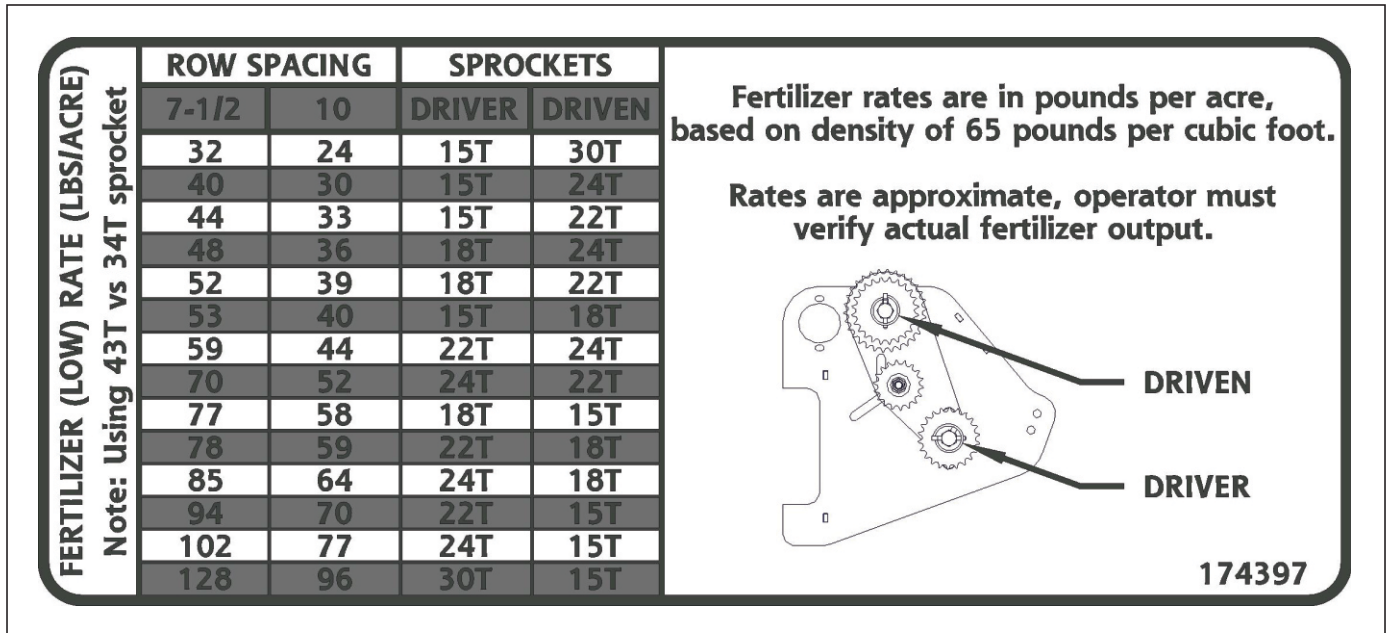

Figure 4-21: Fertilizer Box Chart
1. The dry fertilizer rate is adjusted by changing sprocket ratios for each section. See Figure 4-21 for desired settings. For best results use clean dry fertilizer, free of clumps, or foreign material.